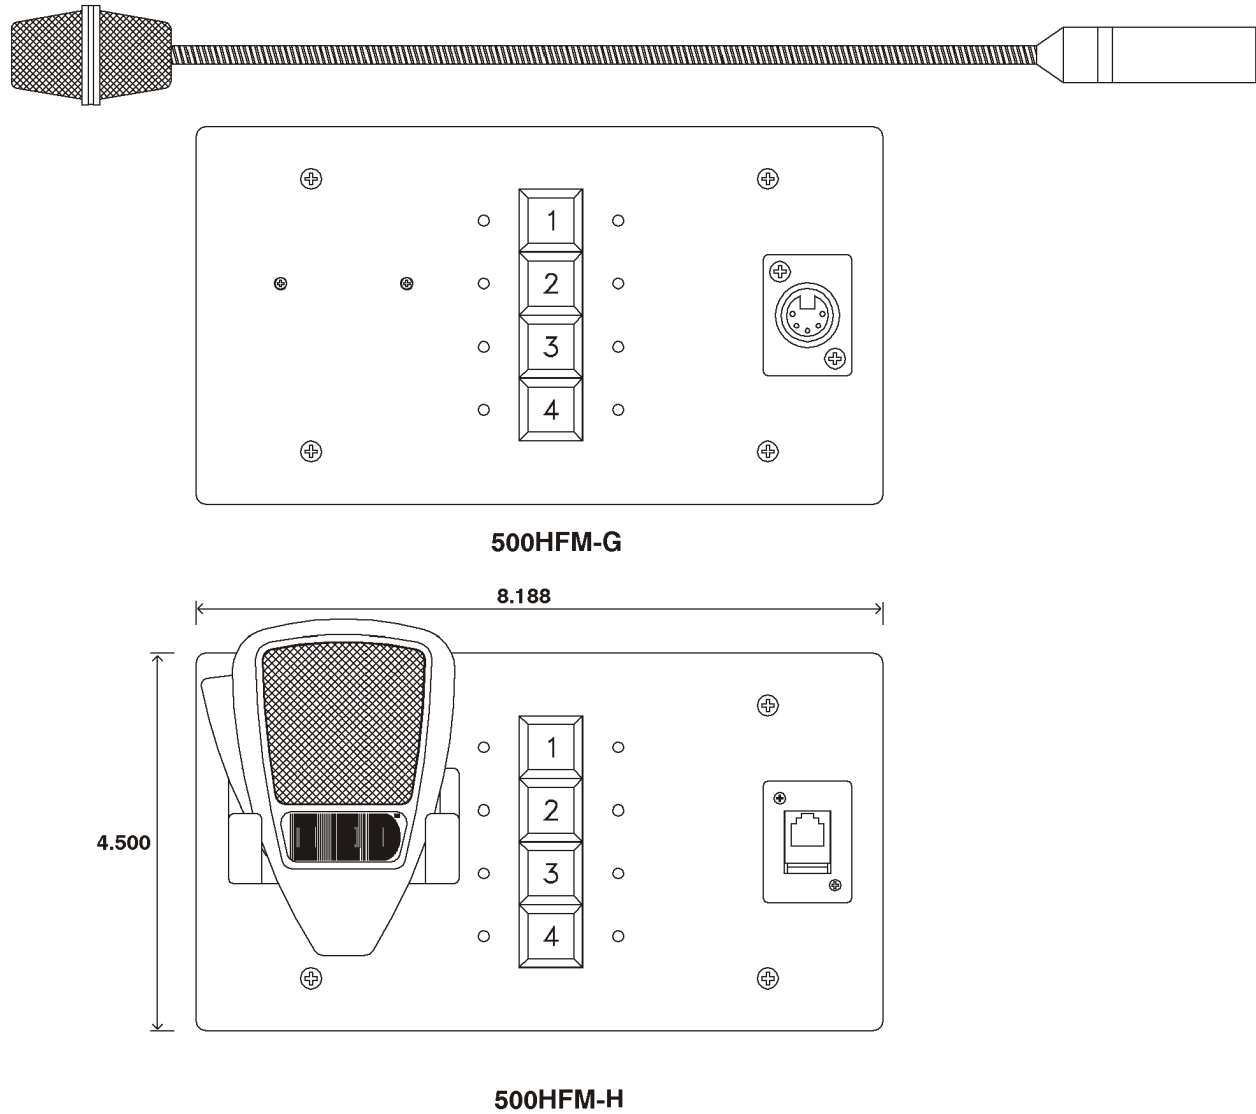

Figure 2 - 500HFM
- Model 500HFM . . . . . See figure 2